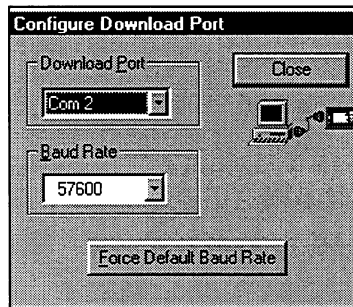

Figure 12-6. Configure Download Port Dialog Box
7. Click on the Configure Serial Port button to open the Configure Download Port dialog box, as shown in Figure 12-6.